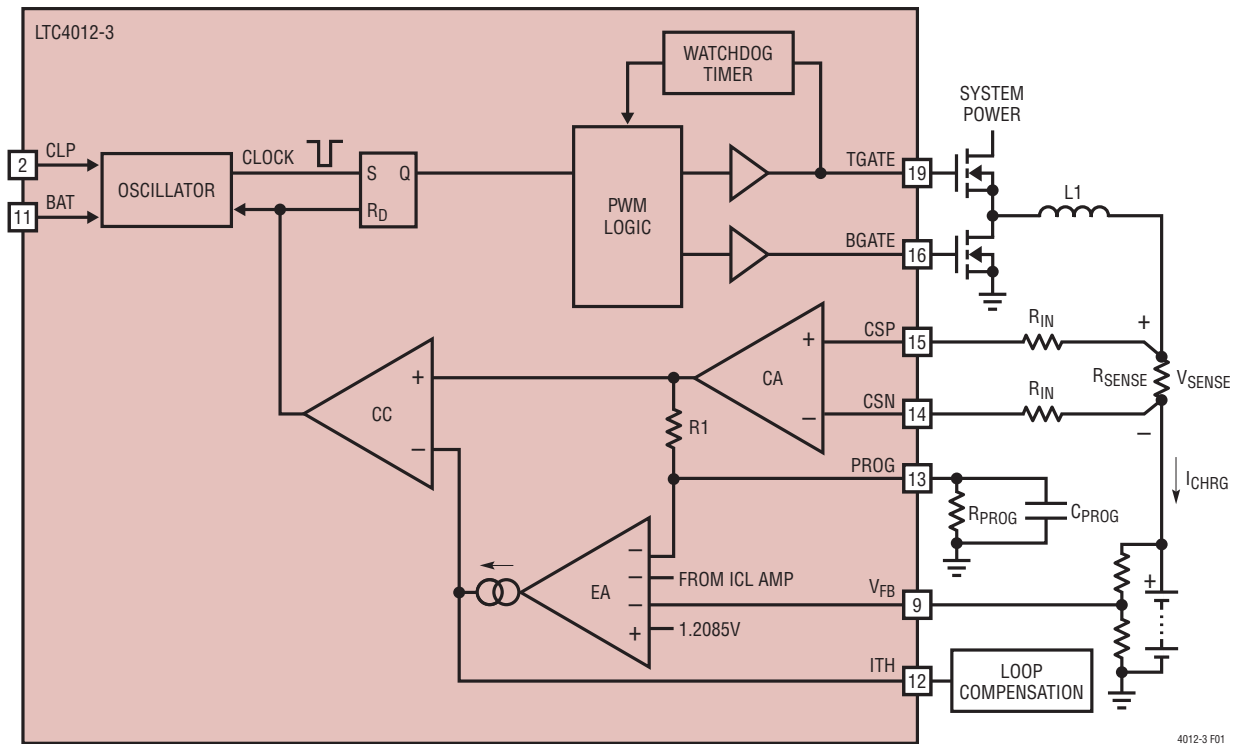

Figure 1. PWM Circuit Diagram
**CSN (Pin 14):** Charge Current Sense Negative Input. Place an external input resistor (RIN, Figure 1) between this pin and the negative side of the charge current sense resistor. Operating voltage ranges from (BAT – 50mV) to (BAT + 200mV).
**CSP (Pin 15):** Charge Current Sense Positive Input. Place an external input resistor (RIN, Figure 1) between this pin and the positive side of the charge current sense resistor. Operating voltage ranges from (BAT – 50mV) to (BAT + 200mV).
The LTC4012-3 is a synchronous step-down (buck) current mode PWM battery charger controller. The maximum charge current is programmed by the combination of a charge current sense resistor ( $R_{\text{SENSE}}$ ), matched input resistors ( $R_{\text{IN}}$ , Figure 1), and a programming resistor ( $R_{\text{PROG}}$ ) between the PROG and GND pins. Battery voltage is programmed with an external resistor divider between FBDIV and GND. In addition, the PROG pin provides a linearized voltage output of the actual charge current.
When the LTC4012-3 is charging, the voltage on the PROG pin varies in direct proportion to the charge current. Referring to Figure 1, the nominal PROG voltage is given by:
The LTC4012-3 uses a synchronous step-down architecture to produce high operating efficiency. The nominal operating frequency of 550kHz allows use of small filter components. The following conceptual discussion of basic PWM operation references Figure 1.